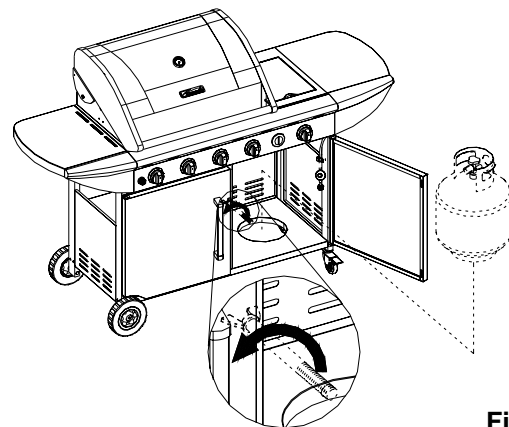

Figure 21
1. From Rear of the cart, place foot ring of 20 lb tank into the hole in bottom shelf. Make sure the tank valve is in OFF position. (Fig.21)